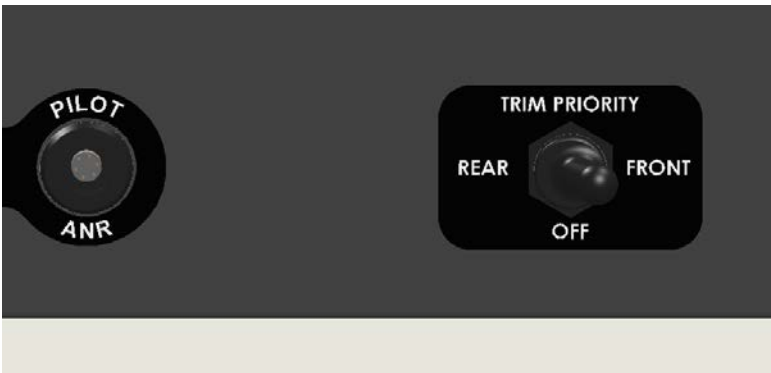

Figure 2 Trim Selector Switch
- A trim selector switch located on the left wing root panel between the forward and aft seats (Figure 2)
Should the elevator trim system begin to move without being operated intentionally, switch the selector switch on the left wing root panel to the OFF position (middle position Figure 2).
The Two-Switch Elevator Trim System allows either occupant to operate the elevator trim. There is a selector switch on the left wing root panel (Figure 2) that has three positions,